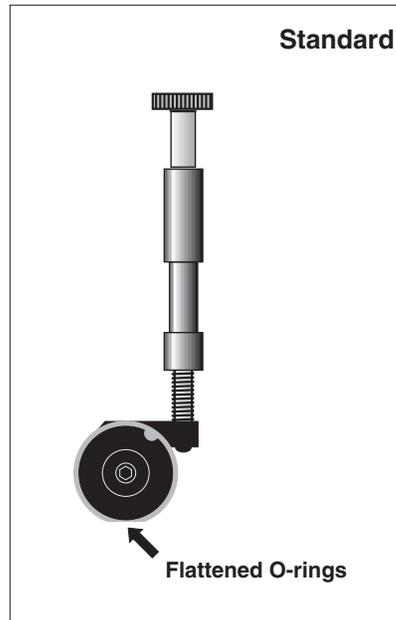

Figure 38. Checking Standard O-Ring Gate for Wear
- Standard O-Ring: Flat areas along the O-rings (Figure 38).